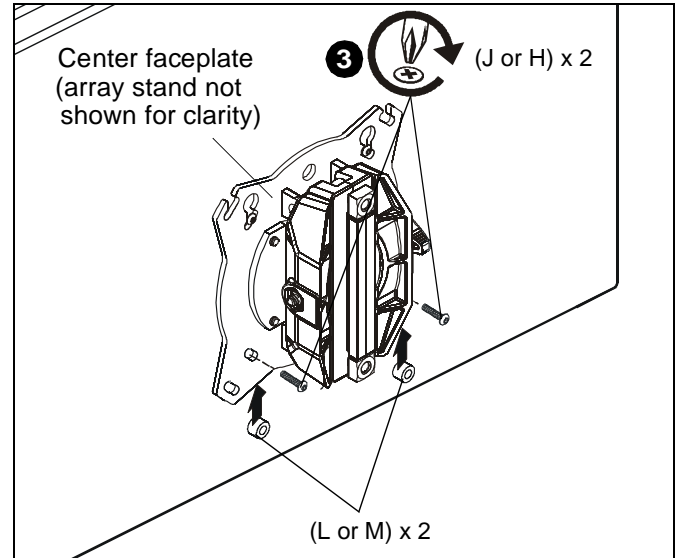

Figure 8
5. Slide two remaining selected spacers (L or M) in between faceplate and display, positioning them over the *lower* two mounting holes. (See Figure 8)
6. Install two remaining selected screws (J or H) through *lower* two mounting holes on faceplate, selected spacers (L or M) into the *lower* mounting holes on the display. (See Figure 8)